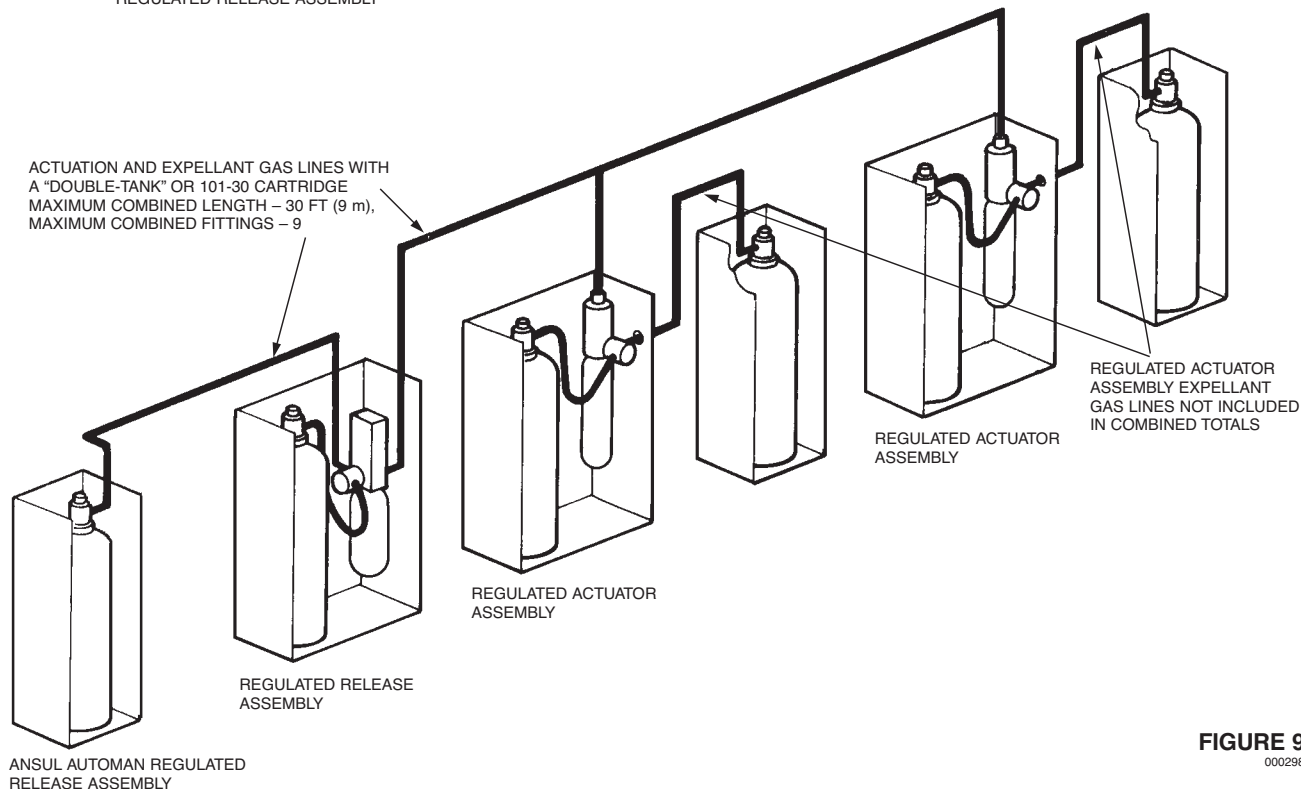

FIGURE 9
- 4. If an expellant gas line is connected to the regulated release assembly along with an actuation gas line, the total combined length of the actuation and expellant gas line **must not** exceed 30 ft (9.1 m). See Figure 9.
4. If an actuation gas line is connected to the regulated release assembly along with an expellant gas line, the total combined length of the gas lines **must not** exceed 30 ft (9 m) when using a “double-tank” nitrogen cartridge or a 101-30 CO₂ cartridge. See Figure 9.